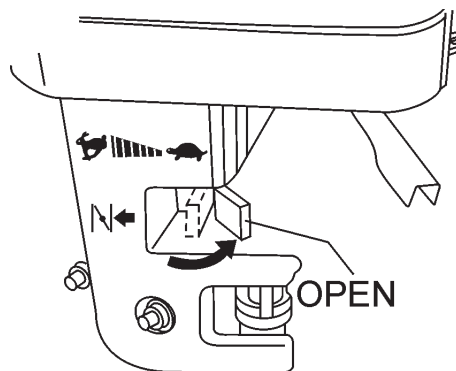

Figure 12. Engine Choke Lever (Open)
4. Place the **choke lever** (Figure 12) in the "**OPEN**" position if starting a **warm engine** or the **temperature is warm**.